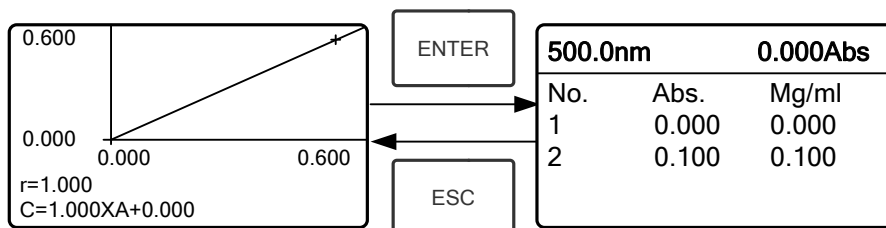

Fig. 4-14
★ Pull the Reference solution in the light path and press  to go into the continuous measurement interface. (Fig. 4-14)
- ★ Press  to go into sample continuous measure interface and measure samples. (Fig. 4-14)